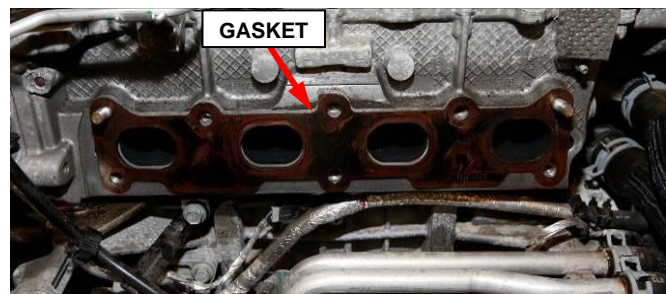

Figure 19 – Maniverter Gasket
30. Remove and **DISCARD** the exhaust manifold gasket (Figure 19).